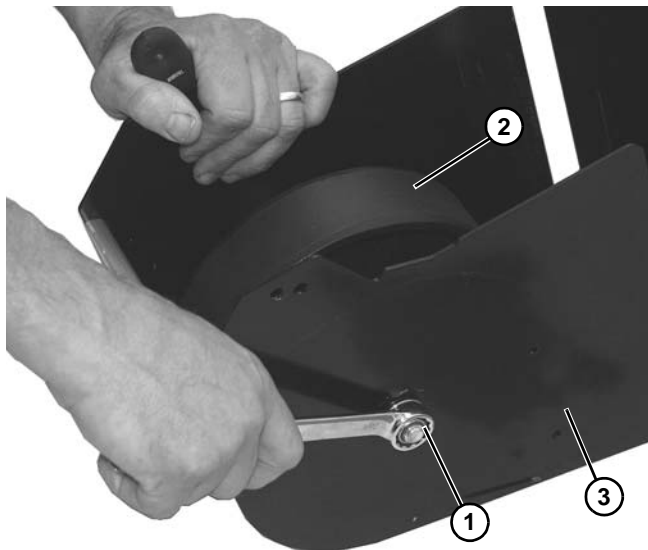

Figure 151
3. Use two wrenches to remove nut (**Figure 151, item 1**) on bolt securing wheel (**Figure 151, item 2**) onto weighted take up assembly housing (**Figure 151, item 3**).